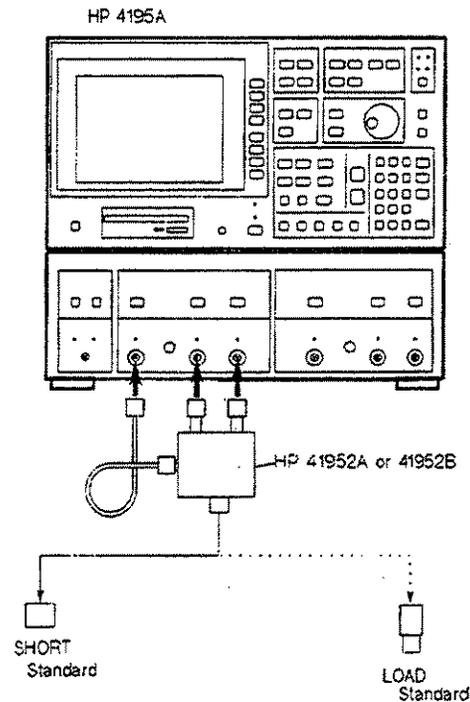

Figure 4-1. Directivity Test Setup
1. Connect the HP 41952A/B to the HP 4195A, as shown in Figure 4-1.